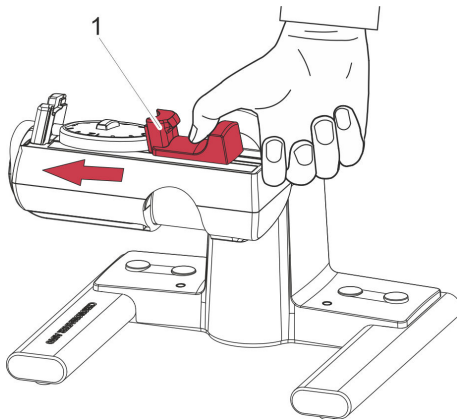

Fig. 16: Letting go of the clamping jaw
3. Carefully guide the clamping jaw (Fig. 16/1) to the watch or the watch movement.